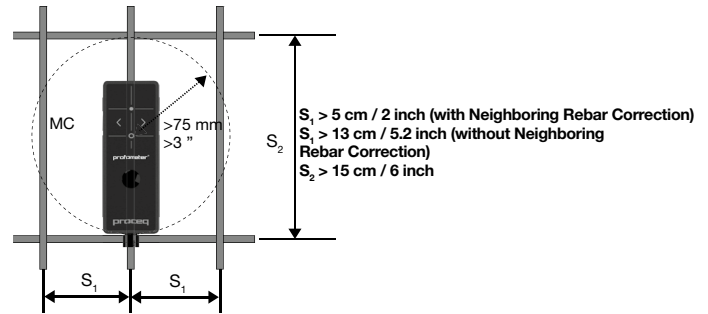

Figure 29: Minimum spacing for diameter measurement
- Evaluate the rebar layout and determine the ideal location for measuring diameter and cover according to the minimum spacing requirements (see Figure 29); if the spacing S_1 of parallel rebars is between 5 cm and 13 cm (2.0 ” to 5.2 ”), set the respective Neighboring Rebar Correction value first.
Diameter measurement accuracy is a complicated function of both first and second layer rebar size and spacing; for all practical purposes, when the minimum spacing requirements are met (see Figure 29 as stated in the Technical Specifications, $S_1 > 5 \text{ cm} / 2 \text{ inch}$, $S_2 > 15 \text{ cm} / 6 \text{ inch}$) it can be summarized as stated the Technical Specifications, that is to say ± 1 rebar size.